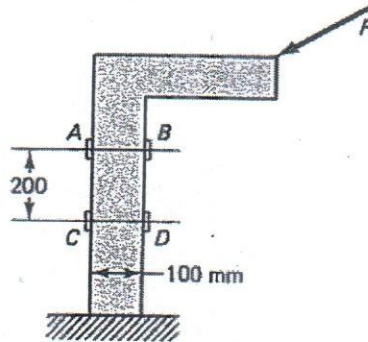

Fig. 8
- (b) A bar having a 100 x 100 mm cross section subjected to a force F , as shown in Fig. 8. The longitudinal stresses on the extreme fibers at two sections 200 mm apart are determined experimentally to $\sigma_A = 0$; $\sigma_B = -30$ MPa; $\sigma_C = -24$ MPa; and $\sigma_D = -6$ MPa. Determine the magnitude of the vertical and horizontal components of force F . (15)